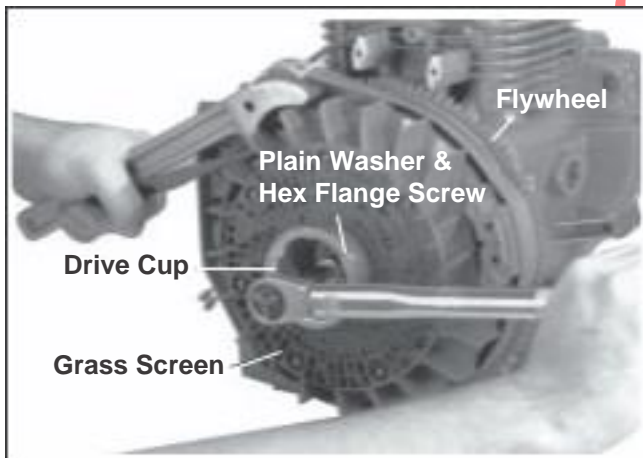

Figure 11-26. Installing Flywheel.
4. Place the flywheel over the keyway/crankshaft. Install grass screen, drive cup, plain washer (flat side of plain washer towards the drive cup), and the hex flange screw. See Figure 11-26.
5. Hold the flywheel with the strap wrench or holding tool and torque the hex flange screw to $66.4 \text{ N}\cdot\text{m}$ (49 ft. lb.). See Figure 11-26.